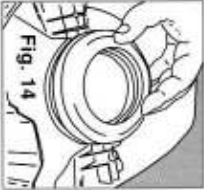

Fig. 14
- 1) **Attach closet flange seal** on the bottom of the toilet so that the inner lip of the seal points toward the closet flange (Fig. 14).